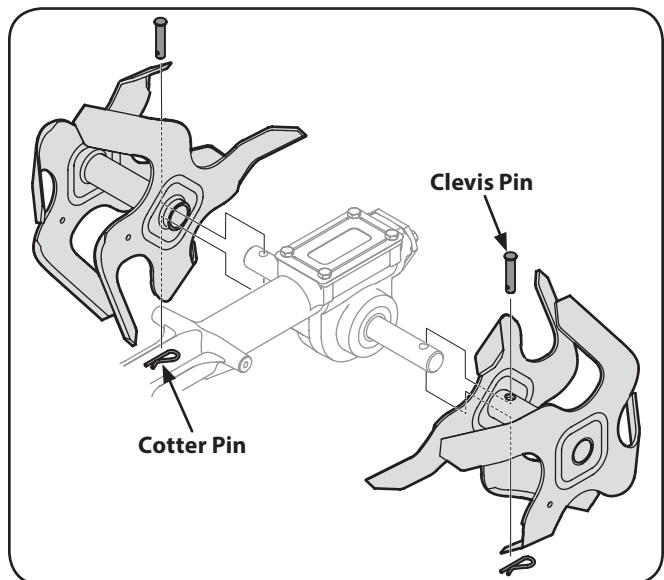

Figure 7-6
3. To remove a tine assembly, simply remove the cotter pin securing the clevis pin as seen in Figure 7-6. Remove the clevis pin and slide the assembly to the outside of the unit and off of the tine shaft.